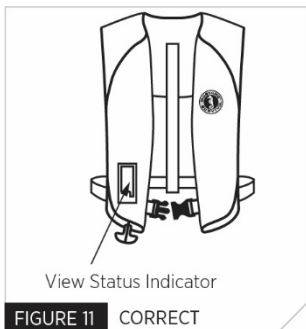

FIGURE 11 CORRECT
3. Make sure the inflator pull-tab is on the outside of the folded flotation device. Fig. 11 depicts a correctly folded flotation device.